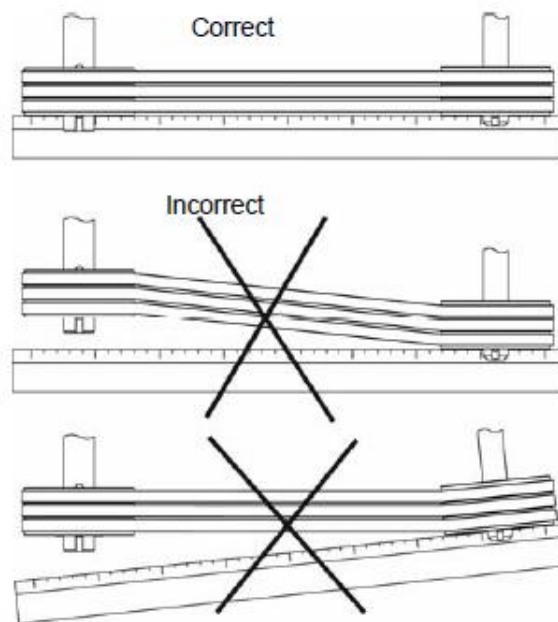

Fig. 27. Pulleys adjustment
Once the new belts are assembled, verify the pulleys' alignment, checking with a gauge if they are parallel to each other and if their grooves are in a line. (fig. 27). Once they are adjusted, rotate the drive without any load to allow the belts to lay down in the grooves accurately. New belts should be stretched again after 50 hours of operation.
5. Adjust the pulley (fig. 27).